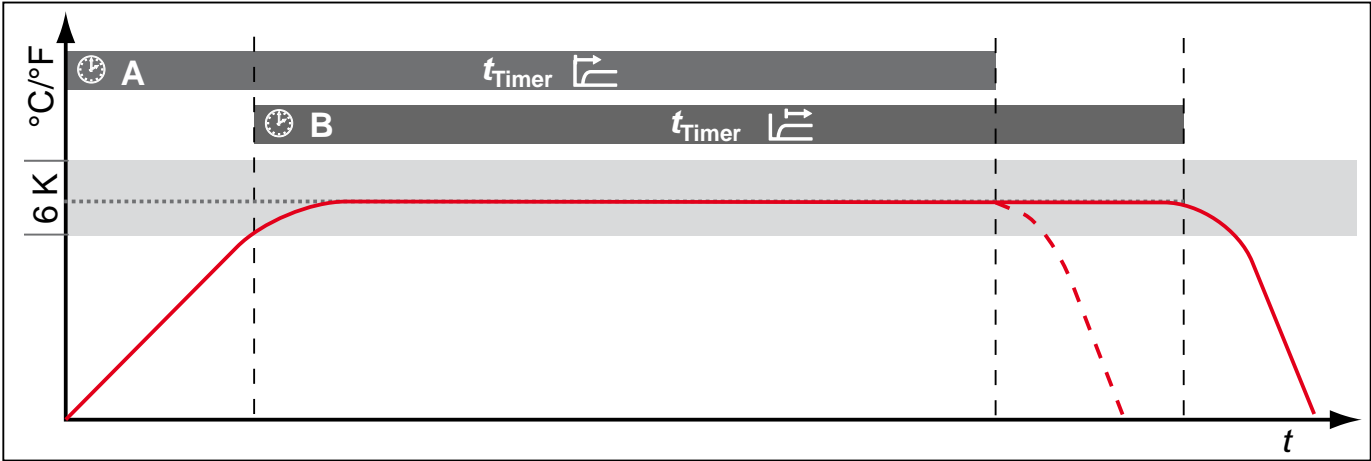

Fig. 26 Timer Mode
Here, you can choose whether the digital backwards counter with target time setting (see page 30) should run setpoint-dependent or not. This determines whether the timer should not start until a tolerance band of ± 3 K around the set temperature is reached (Fig. 26, B) or if it should start right after activation (A).